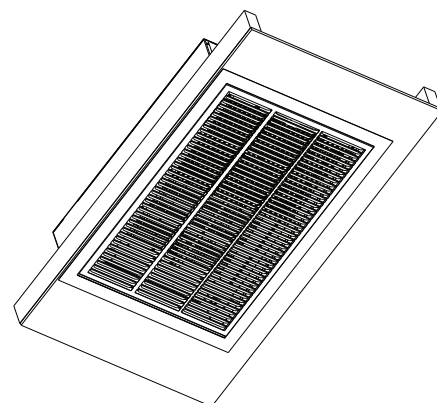

Fig. 14 – Decorative Grille Cover and Logo Badge
21. If working properly, install a 20" x 30" hinged return air decorative grille cover (provided by installer). Use the grille cover manufacturer's instructions. Make sure the purifier has enough clearance to hinge down through the opened grille cover frame (Fig. 14).
22. Press the applicable logo badge into the two mounting holes on the lower left corner of the lowered unit (Fig. 14).